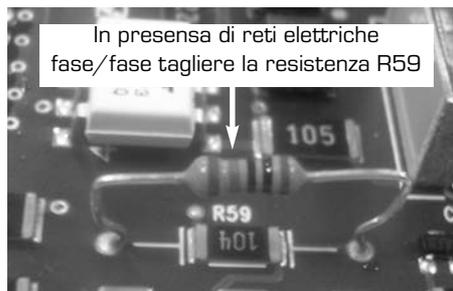

Fig. 13
2.13 SCHEMA ELETTRICO MOD. "OPEN DGT HE 25-30" (fig. 13/a)